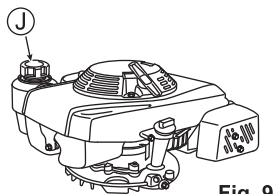

Fig. 9
1. Open the fuel tank cap (J) and refuel gasoline. Immediately wipe off with a rag if gasoline is spilt. (See Fig. 9)
2. Firmly close the fuel tank cap (J) after refueling.